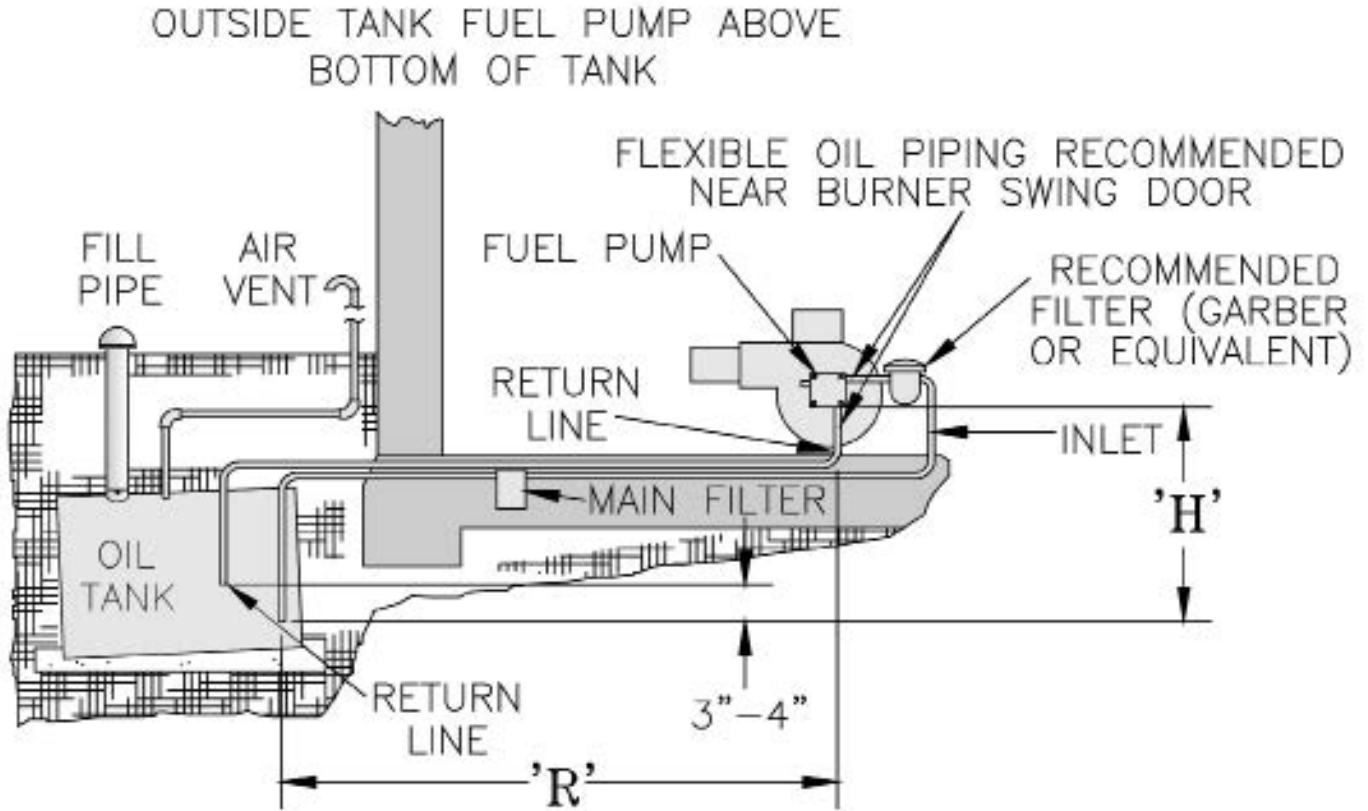

Figure 8-2: Two Pipe Oil Lines
1. For two piped systems, where more lift is required, the two-stage fuel unit is recommended. Refer to Oil Pump Manufacturer and Figure 8-2.